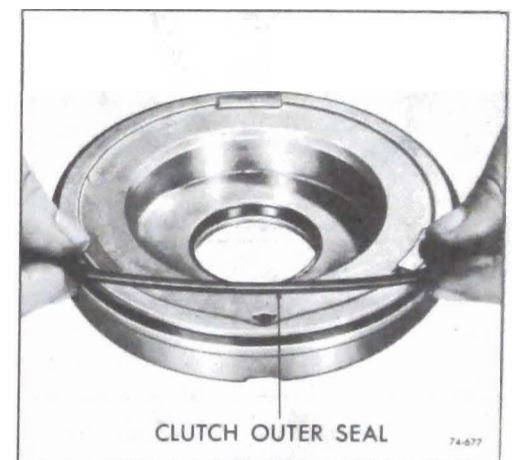

Figure 76-677
8. Remove outer seal from piston. See Figure 76-677.
2. Install a new outer clutch piston seal with lip away from spring pockets. See Figure 76-677